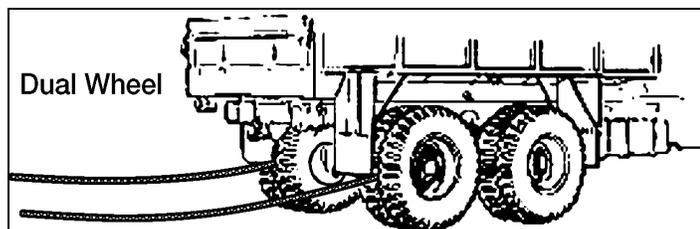

Figure 3-79. Dual-Wheel Recovery Method
10. Self-recover the vehicle by using the dual-wheel operation (2 ½-Ton to 5-Ton without winch) (see Figure 3-79).